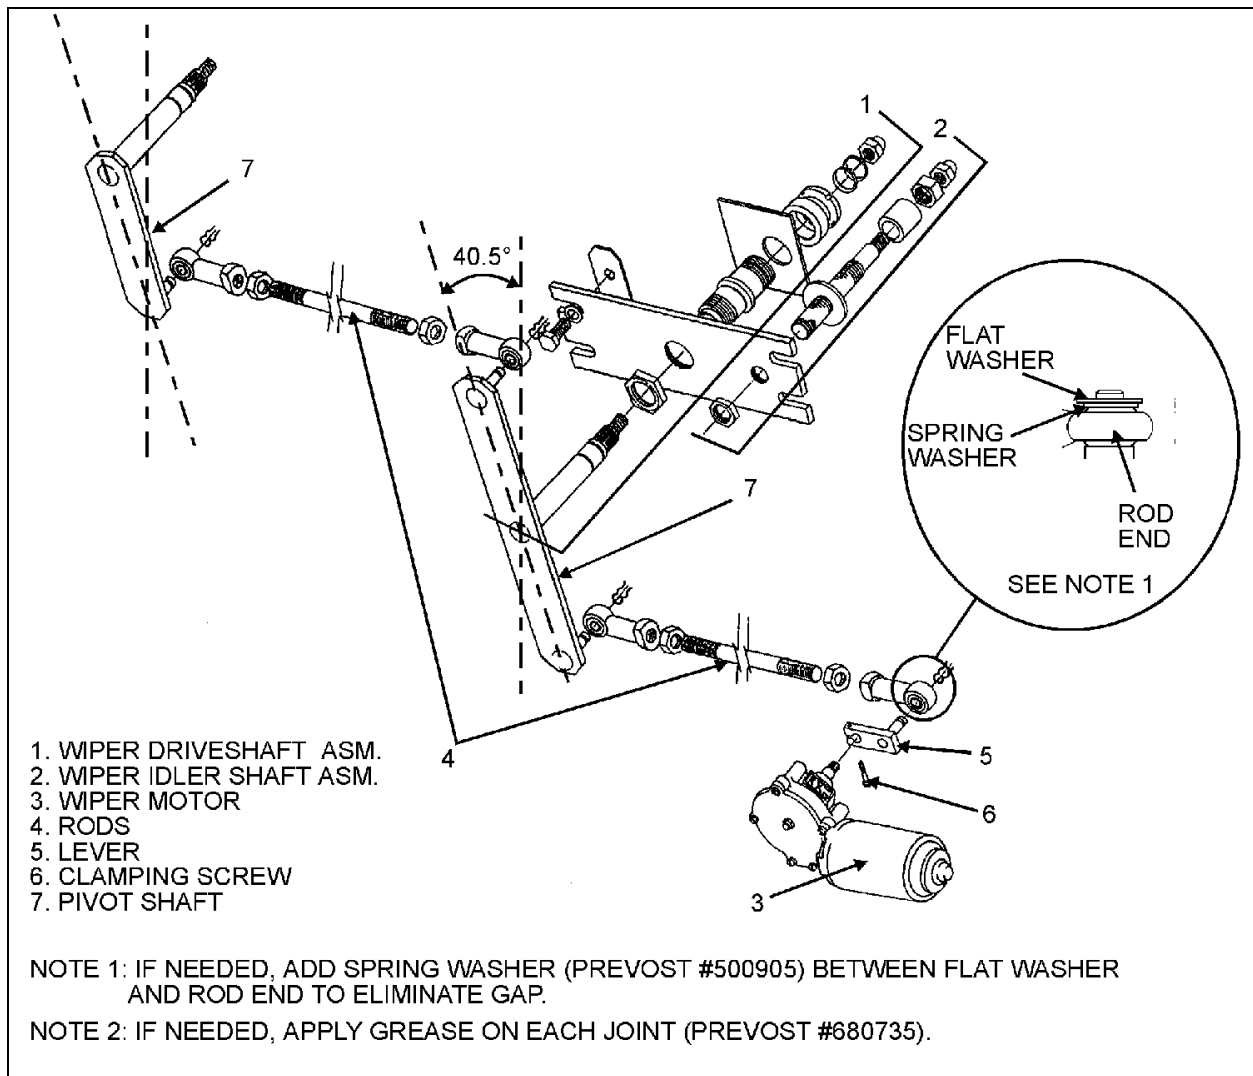

FIGURE 38: LOWER WINDSHIELD WIPER INSTALLATION
4. Adjust the rod located between right pivot shaft and motor to a 40.5° angle (fig. 38). The motor lever must be on the same axis as the rod.